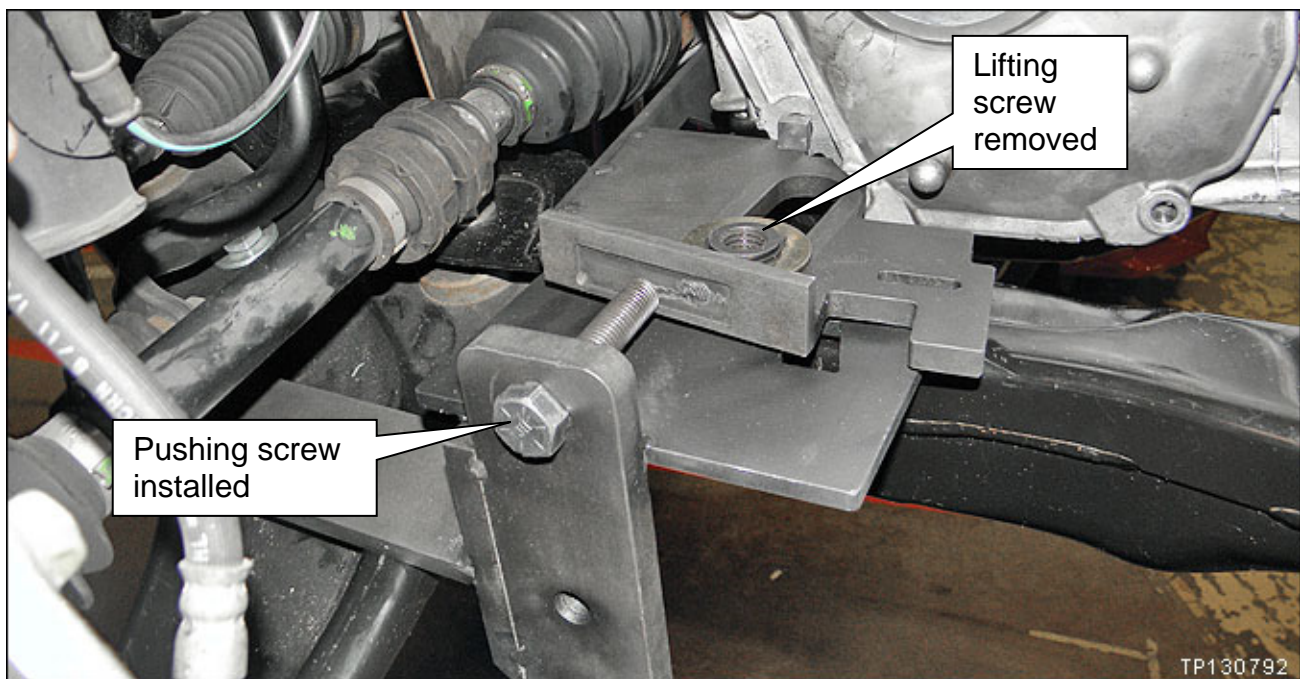

Figure 22
28. Lower and remove the lifting screw (see Figure 22).
29. Install the pushing screw all the way (see Figure 22).